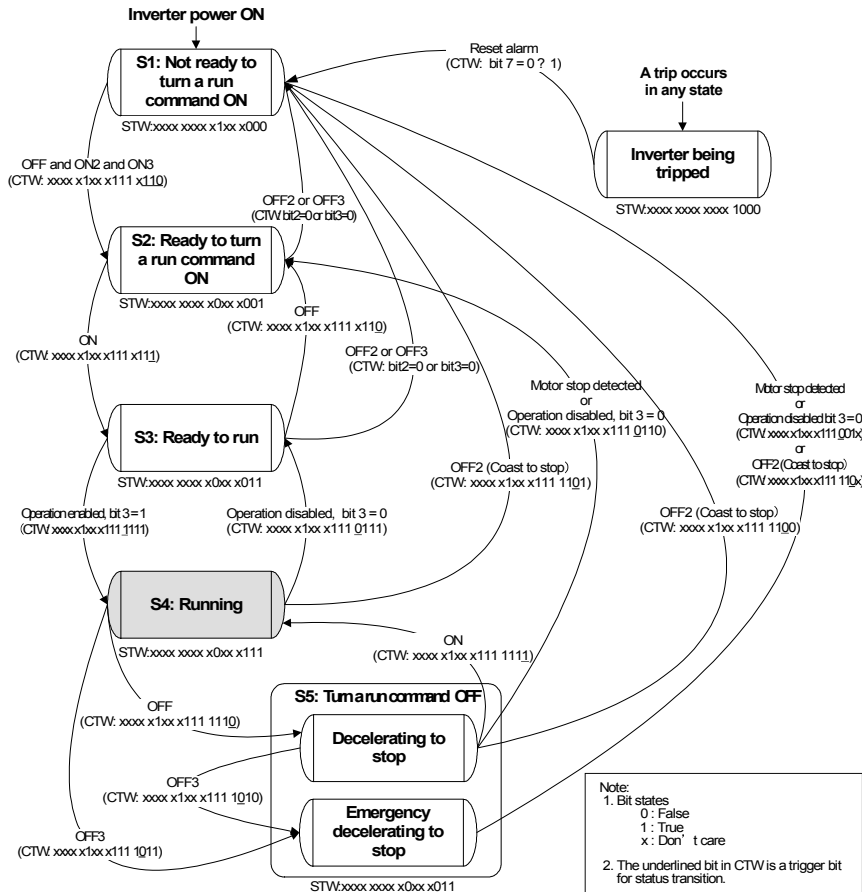

Figure 8.2 Status Transition Diagram of PROFIdrive Profile
For the status transition condition of the PROFIdrive profile, refer to Section (2) "STW (status word)" and Figure 8.2 on the following pages.
STW indicates the status transition of the PROFIdrive. The status transition details are shown in Figure 8.2.
Figure 8.2 shows a status transition diagram of the PROFIdrive profile.
In Figure 8.2, to simplify the description, values of Bit 4 to Bit 6 and Bit 10 in CTW are always "1." If any one of these bit values is not "1," the inverter will not enter the running state even if the status transition properly proceeds.